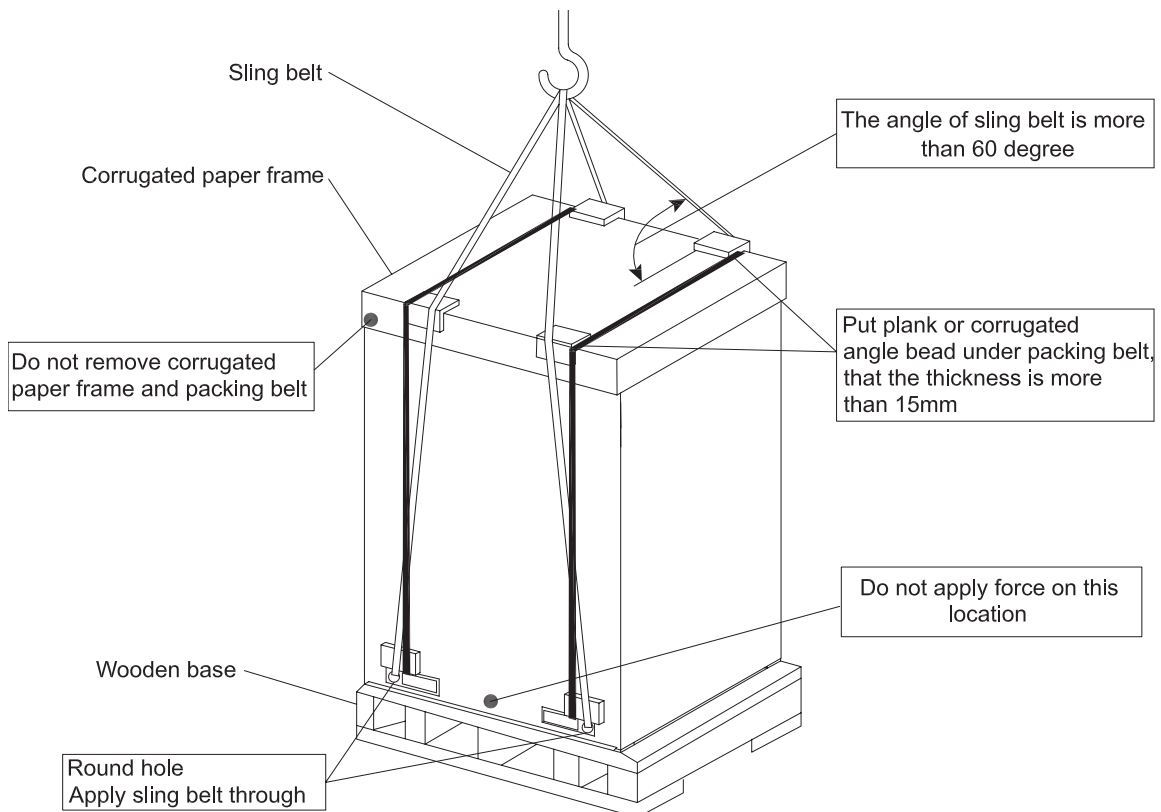

Figure 4.1 Lifting Diagram
2. As shown in Figure 4.1, lift the machine with a bundle of two slings.